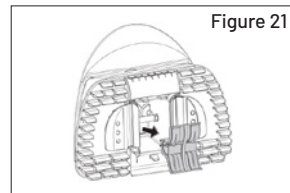

Figure 21
4. Pull the Oscillator Straight out from the bottom of the Outer Housing. Be careful not to lose the Sliding Seals, (see Figure 21).